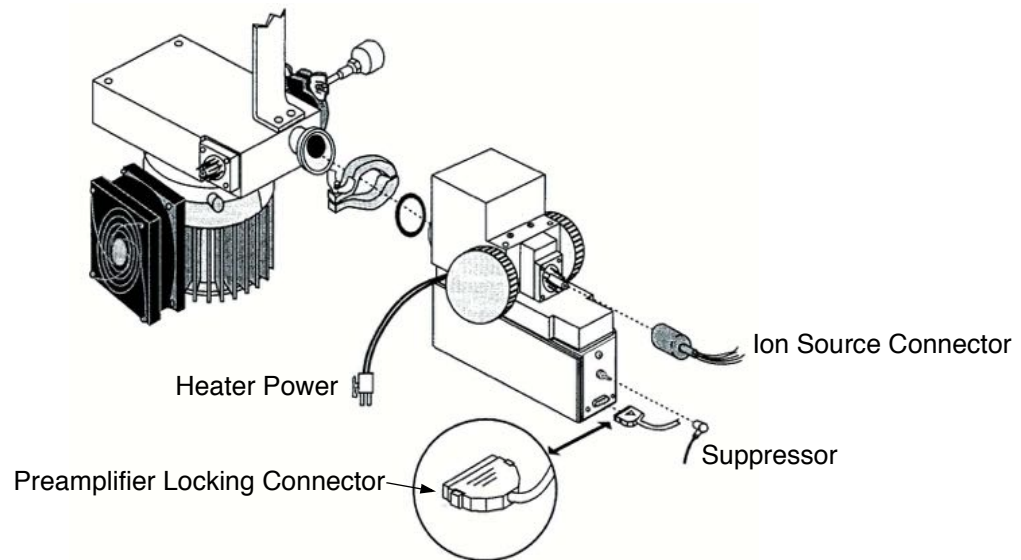

Figure 4-9 947/948/960 Spectrometer Tube Installation
- a. When attaching the locking connector (Figure 4-9), press the tabs on the sides of the connector